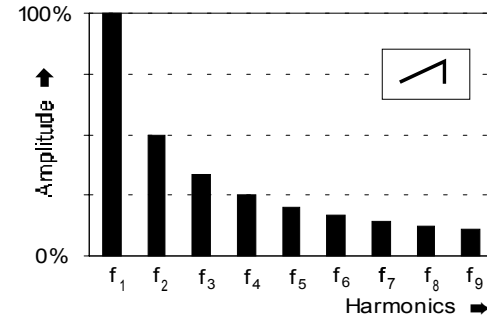

Fig. 1: Harmonic spectrum of a sawtooth
The VCO's sawtooth waveform is available at output ⑦. It has a 'cutting' sound, rich in overtones. All the harmonics of the fundamental are present, with a linear reduction in intensity as the harmonic series progresses - so that the second harmonic is half as strong, the third is one third, the fourth a quarter, etc. (see Fig. 1).